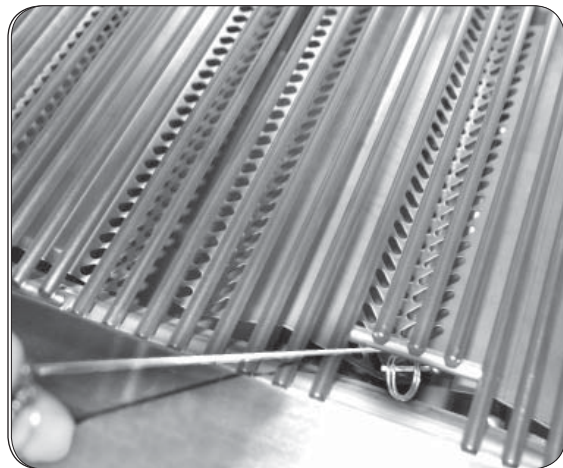

Fig. 10-3 - Manual lighting
**REMEMBER:** For safe manual lighting, place a burning match or butane lighter beside the burner - **Then turn on the gas** (Fig. 10-3).